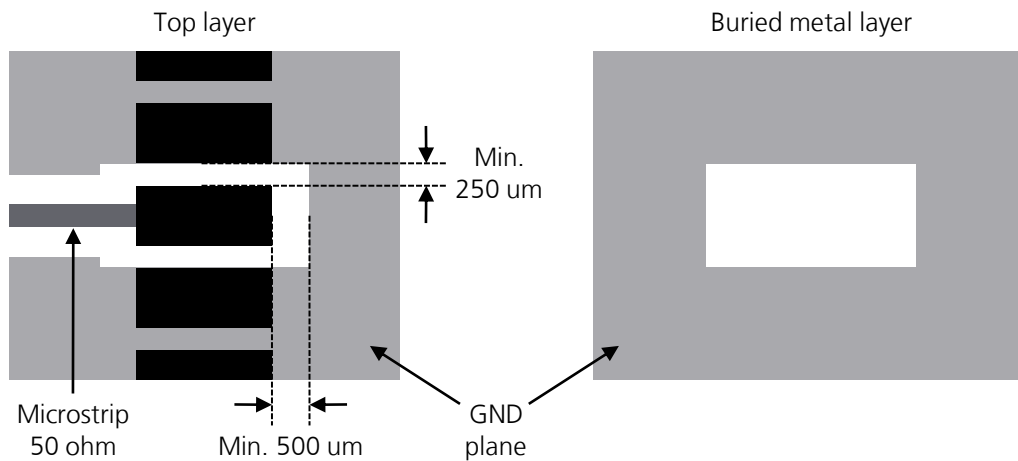

Figure 55: GND keep-out area on top layer around ANT and ANT_DIV pads and on buried layer below ANT and ANT_DIV pads
- Increase GND keep-out (i.e. clearance) for **ANT** and **ANT_DIV** pads to at least 250 μm up to adjacent pads metal definition and up to 500 μm on the area below the module, as described in Figure 55
- Add GND keep-out (i.e. clearance) on buried metal layers below **ANT** and **ANT_DIV** pads and below any other pad of component present on the RF line, if top-layer to buried layer dielectric thickness is below 200 μm , to reduce parasitic capacitance to ground (see Figure 55 for the description of the GND keep-out area below **ANT** and **ANT_DIV** pads)